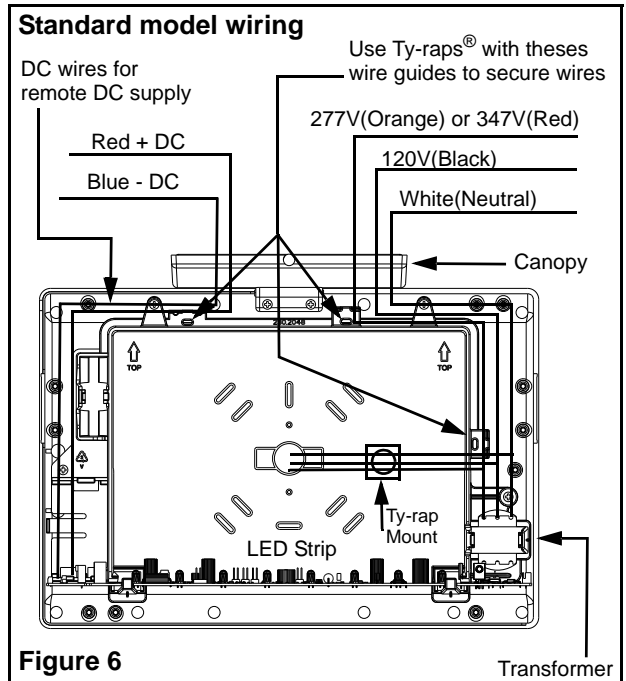

Figure 6
- f. Route the AC supply wires and ground wire from the unit through the rectangular hole in the housing and through the slot in canopy. Use the guides to tie down wires with the ty-raps® (see figure 6).
- g. Make the proper connection. In a standard unit, the system can accept input voltages of 120 or 277 or 347 Vac. Therefore, connect the black (120Vac) or orange (277Vac) red (347Vac) and white (common) leads to the building utility (see figure 6). Feed the excess wire into the junction box.
- c. Mount the back cover to the junction box using the junction box screws. Install ty-rip mount and use ty-rip to place wires against back plate to avoid shadowing in the legend (see figure 6).
- d. Make the proper connection. In a standard unit, the system can accept input voltages of 120 or 277 or 347 Vac. Therefore, connect the black (120Vac) or orange (277Vac) or red (347Vac) and white (common) leads to the building utility (see figure 6). Feed the excess wire into the junction box.
Refer to figure 6 for AC & DC wiring.